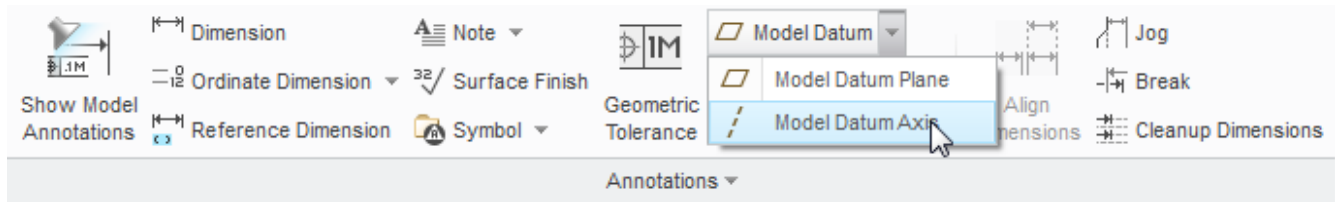

Figure 13: Model Datum Axis.
4. NOTE: If you need an axis and in the model you don't have one, you just need to create a new axis! You can do it in the part mode (using *Axis* (/)) from *Datum* group) or in drawing mode (Figure 13).